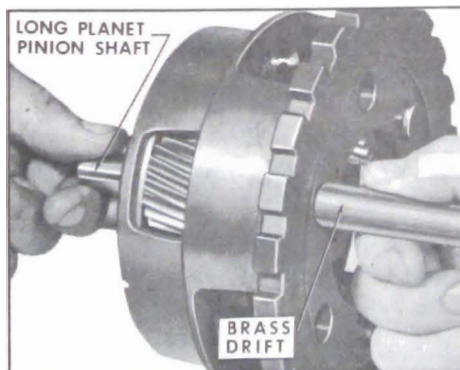

Figure 5-253
9. Insert Brass Drift through long planet pinion. Remove the long planet pinion shaft. See Figure 5-253.